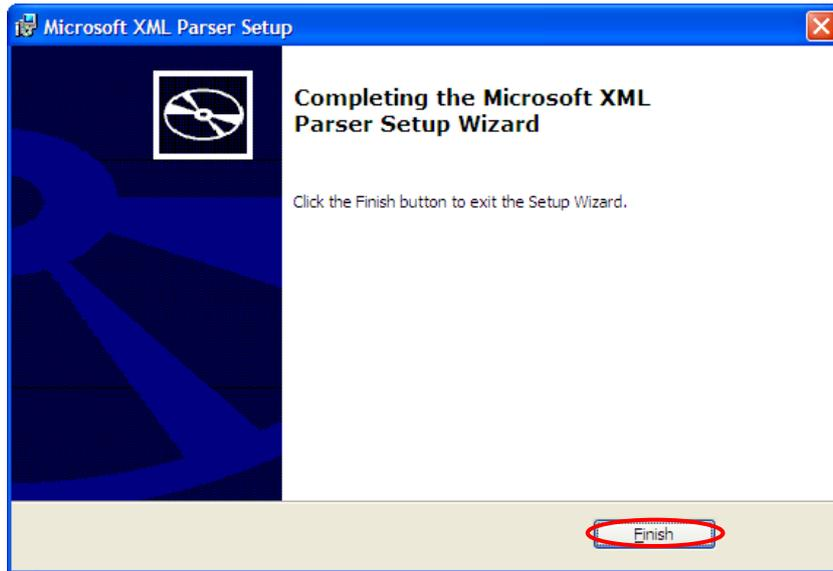

Figure 1-1-15 Installation Steps (15)
- After installation click “Finish” button to exit the setup wizard MSXML 3.0 SP4, as shown in figure 1-1-15.